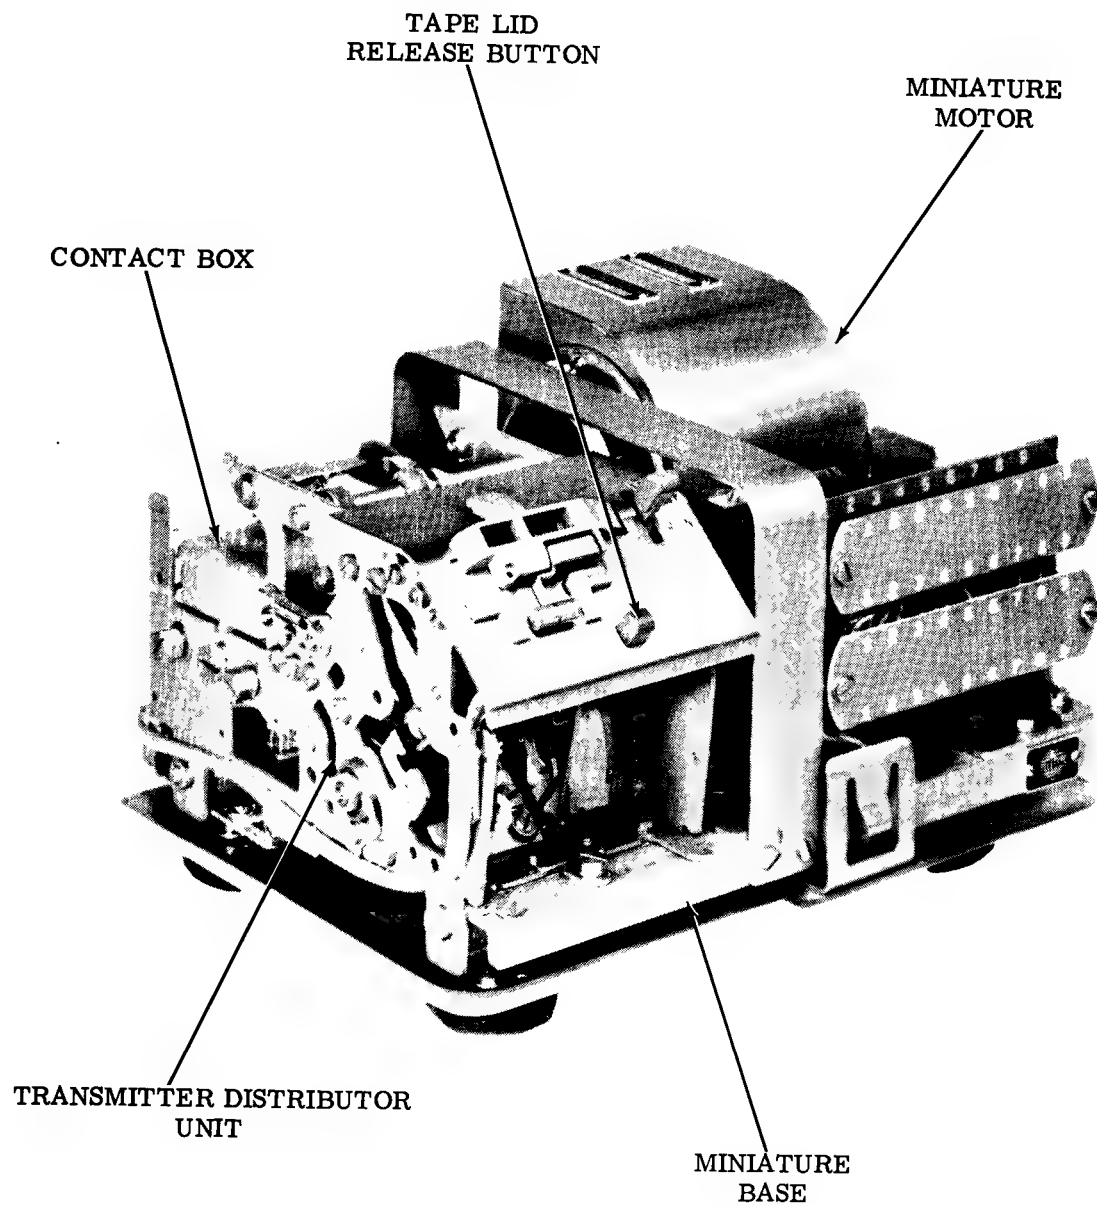

Figure 4 - Miniaturized 28 Transmitter Distributor Set
3.06 The miniaturized set has been so characterized because of its compactness (Figure 4). The smallness in size is accom-